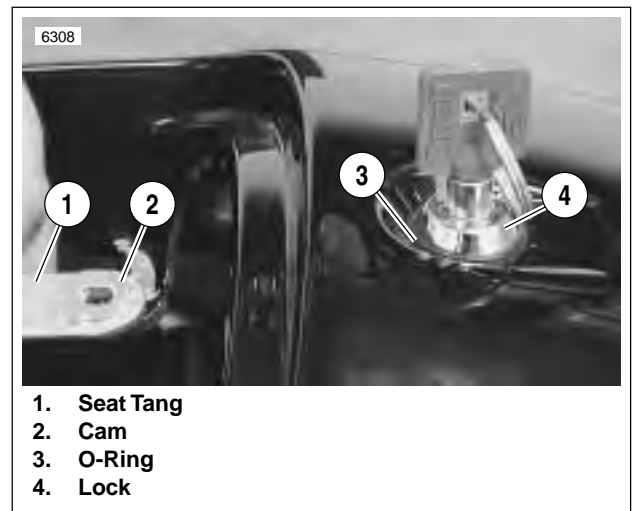

Figure 2-113. Installing Seat Lock
1. See Figure 2-113. Place O-ring (3) and lock (4) in tail section as shown.
3. See Figure 2-113. Position cam (2) on seat tang (1). Install assembly on lock.